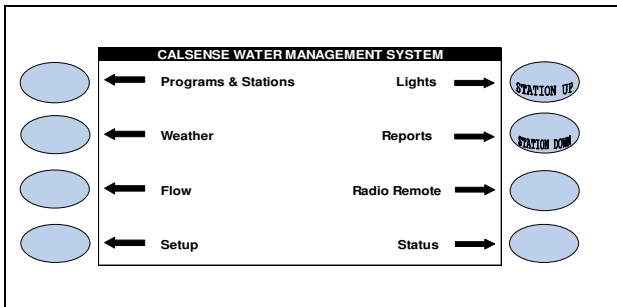

Figure 1
- Press the **FLOW** Menu key (Figure 1).